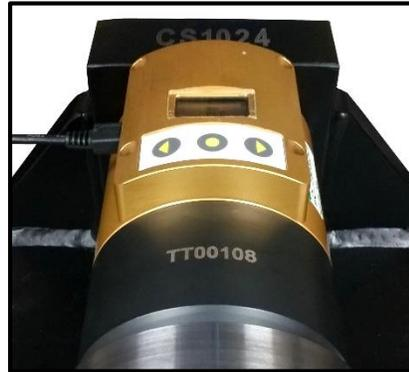

Figure 4.4-1: RAD Transducer Installed
3. Install the RAD Transducer into the appropriate Calibration Stand fixture with the LCD display and keypad facing up (Figure 4.4-1).